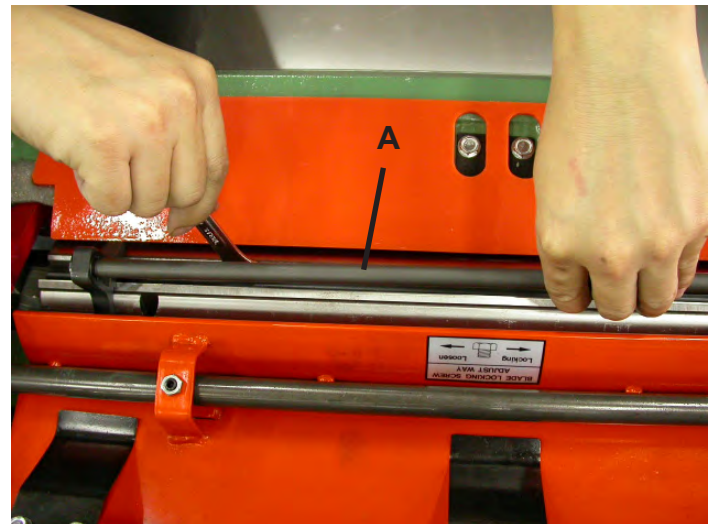

Fig 21
7. Alter all four knives are set with screws just snug, back out and tighten the six screws (D) Fig. 21, 22 against the slot starting with the end screws first, then the center screws until the knife is securely held in the cutterhead. Tighten remaining three knives in the same manner.